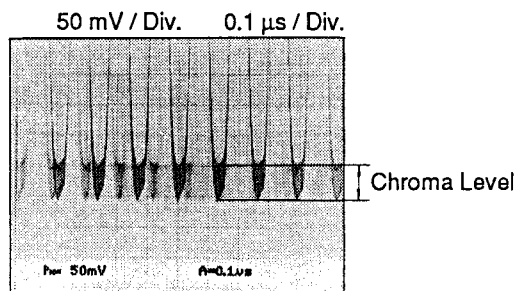

FIGURE 3 - RECORDED WAVEFORM (ENLARGED WAVEFORM FIGURE 1.)
6. Adjust the chroma recording voltage after measured with VR402 like 4. (Refer to Figure 3)